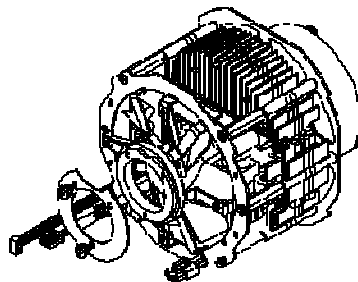

Fig.2
6. Place HPLED II T on working bench and start loosening the 3 M4 screws that hold the metal ring (marked by red arrow in figure 2).